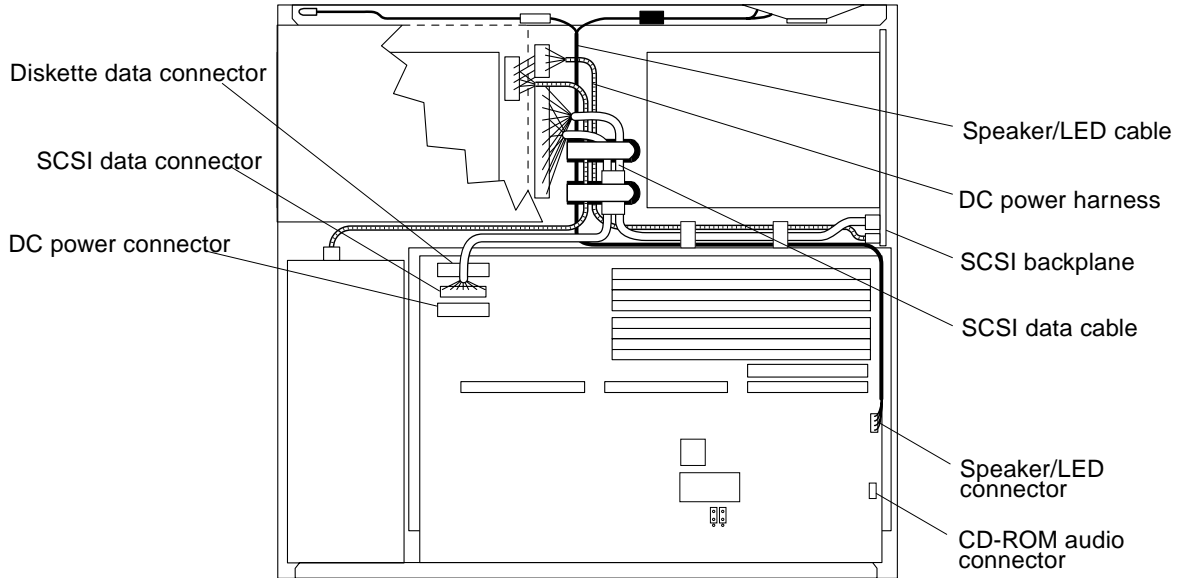

FIGURE 11-18 System Board Cable Connections
7. Unplug the DC power, SCSI data, diskette data, speaker/LED, and CD-ROM audio cables from the system board (See FIGURE 11-18).
See FIGURE 11-18.